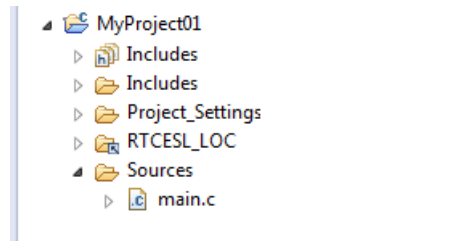

Figure 1-16. Projects libraries paths
5. Click Finish, and you will see the library folder linked in the project. See Figure 1-16.